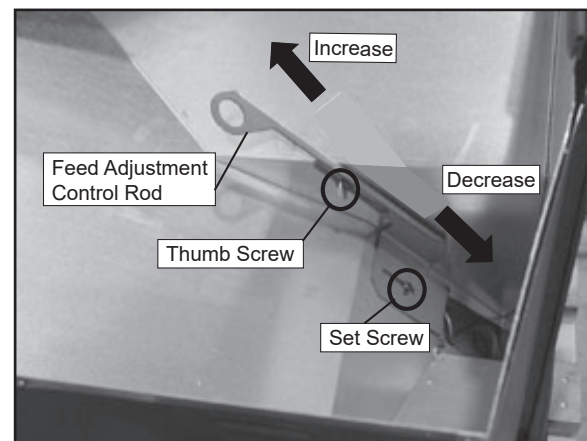

Figure 11.2
1. Loosen the set screw 1/4 to 1/2 turn during set-up of appliance. This will allow movement of the feed adjustment control rod. Do not re-tighten set screw (**Figure 11.2**). Loosen the wing nut.